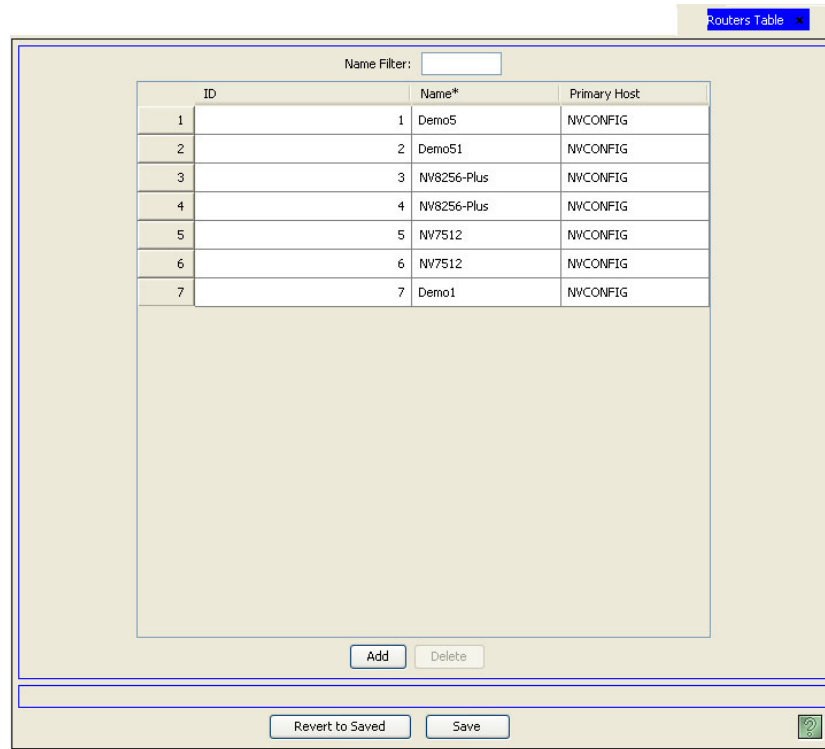

Figure 12-5. Routers Table
- 2 From the navigation area, select the 'Views' pane and then 'Routers'. The 'Routers' table appears, as shown in Figure 12-5.